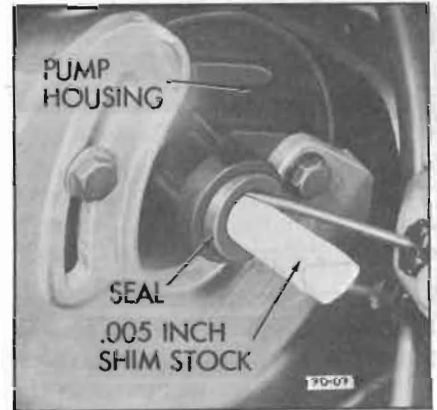

Figure 90-69—Removing Oil Pump Shaft Seal
around shaft and push it past seal until it bottoms in pump housing. See Figure 90-69.
6. Remove seal by cutting metal body of seal with a sharp tool and prying out. See Figure 90-69. Extreme care must be used to prevent damage to shaft and pump housing.